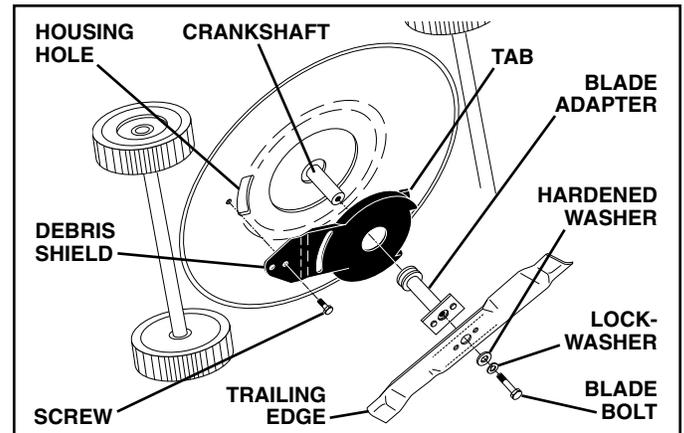

FIG. 17
6. Remove screw securing debris shield. Note that the debris shield has a tab which fits into a gap in the housing (See Fig. 17).
4. Position blade on the blade adapter aligning the two (2) holes in the blade with the raised lugs on the adapter.
5. Be sure the trailing edge of blade (opposite sharp edge) is up toward the engine as shown (See Fig. 17).